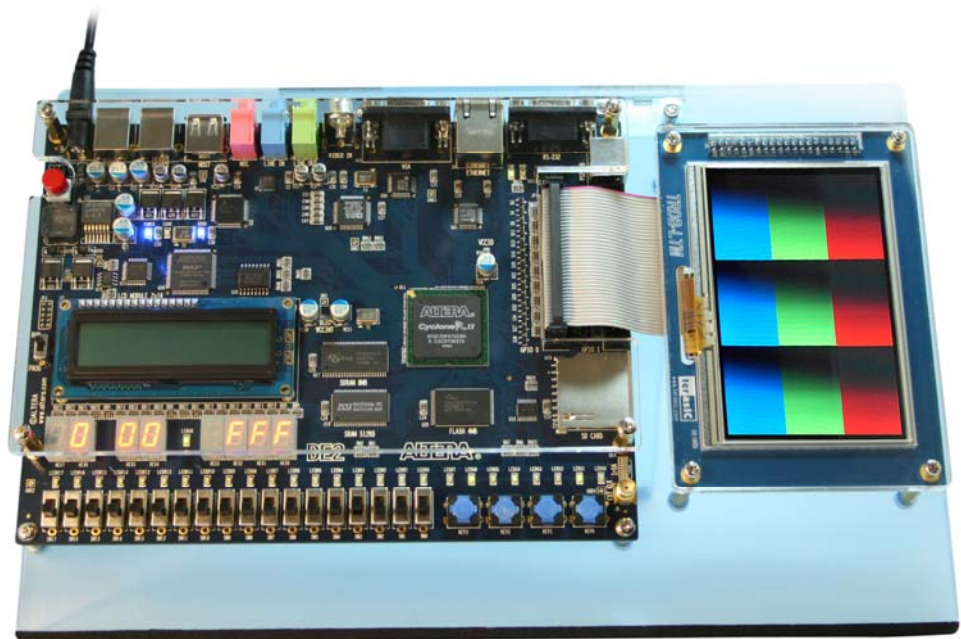

Figure 4.11. The connection setup for the pattern generator demo with DE2 board
1. Ensure the connection is made correctly as shown in Figure 4.11 and Figure 4.12